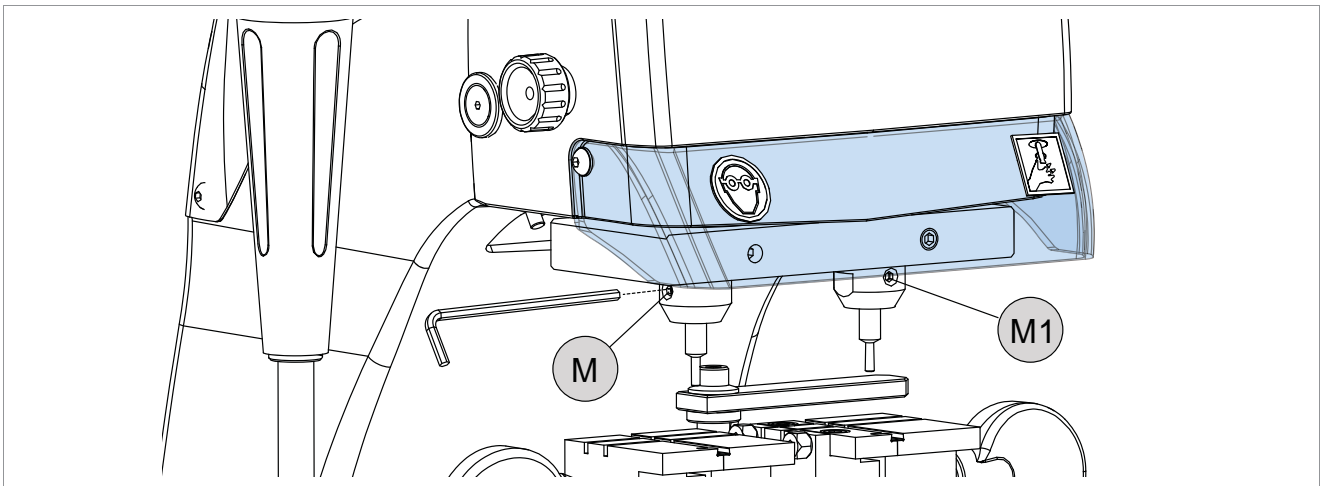

Fig. 12
- 1) Place the tracer point all the way into the left-hand sleeve and secure by tightening the grub screw (M) (Fig. 12).